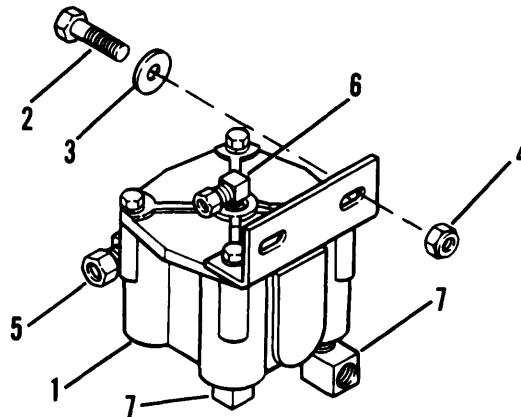

Figure 4-32. Emergency Relay Valve (M871A1)
- (1) Tag and disconnect air lines from emergency relay valve (1, fig. 4-32).
- (2) Remove two screws (2), washers (3) and locknuts (4) used to mount emergency relay valve (1). Remove emergency relay valve (1).
- (3) Remove fittings (5, 6, and 7) from emergency relay valve (1)
- (1) Install fittings (5, 6, and 7, fig. 4-32) on emergency relay valve (1).
- (2) Install emergency relay valve (1, fig. 4-32) on frame bracket.
- (3) Secure emergency relay valve (1) to frame bracket with two screws (2), washers (3) and locknuts (4).
- (4) Connect air lines to emergency relay valve (1).
- (5) Close drain cocks (para. 3-8).
- (6) Charge air brake system.
- (7) Check for leaks (para. 4-30).